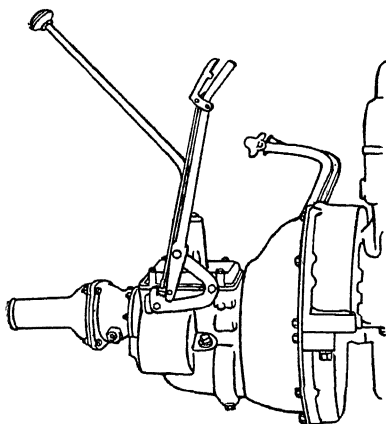

Fig. 3. When the Engine Has Been Lifted from the Car, Remove the Transmission
**Removing Transmission.** It is generally possible to remove the transmission after the power unit has been cleaned and disturb no other parts. This is done so as to get it out of the way for the work which is to proceed upon the engine. See Fig. 3.